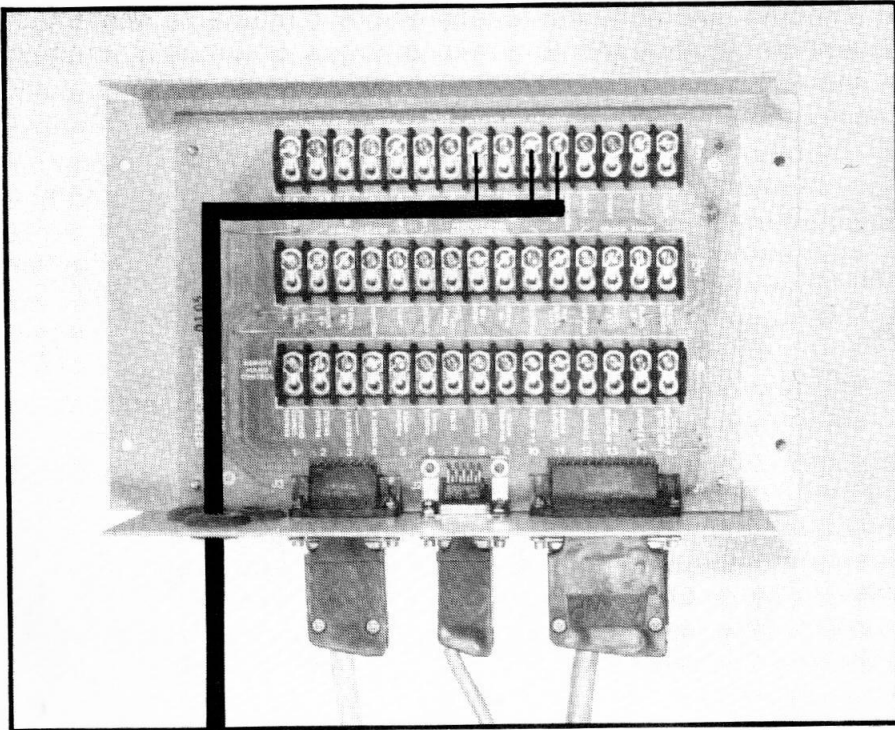

FIGURE 45. WIRING THE RAI INTO THE MATRIX
4. Referring to Figure 45, wire the cable into the Matrix. Follow the General Wiring Instructions on page 16, Section 2.1. Replace Matrix cover.